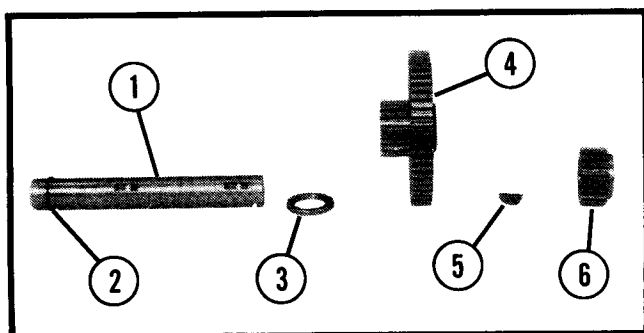

Figure 28. Input Shaft
6. Remove the gears, key and spacer from the input shaft (See Figure 28).